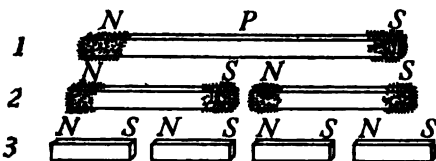

FIG. 176.—Effect of breaking a magnet.
**205. The Theory of Magnetism.**—If a magnetized watch spring is broken in two, *each part* is found to be a magnet. If one of these parts be broken and this process of breaking be continued as far as possible, the smallest part obtained has two poles and is in fact a complete magnet. (See Fig. 176.) It is supposed that if the division could be continued far enough that each of the *molecules of the steel spring* would be found to have *two poles*